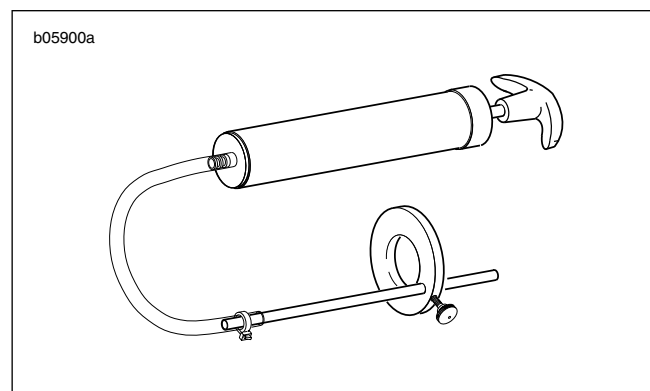

Figure 1-35. Pro Level Oil Gauge
- b. Measure distance from fork oil (4) surface to top of outer tube (1) using PRO-LEVEL OIL GAUGE (Part No. B-59000A). See Figure 1-35.